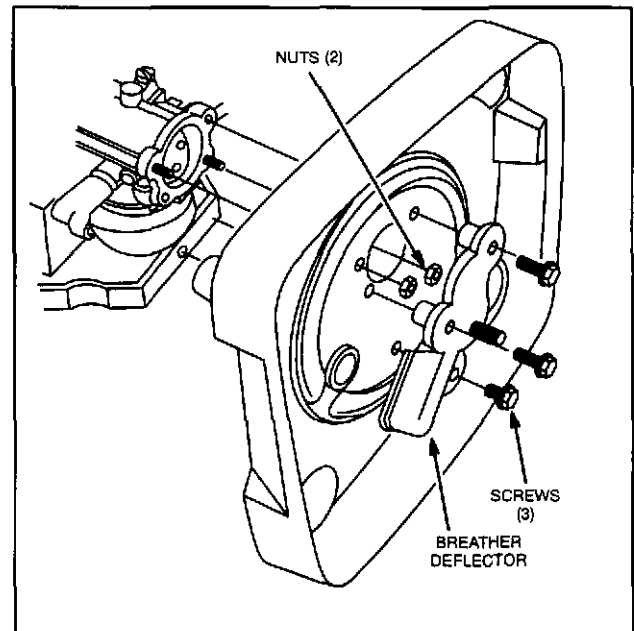

Fig. 10 - Remove Air Cleaner Base (Current Style)
**Current style:** Remove air cleaner cover, cartridge and pre-cleaner. Remove three screws and breather deflector. Then remove two carburetor mounting nuts, Fig. 10. Remove air cleaner base and breather tube.